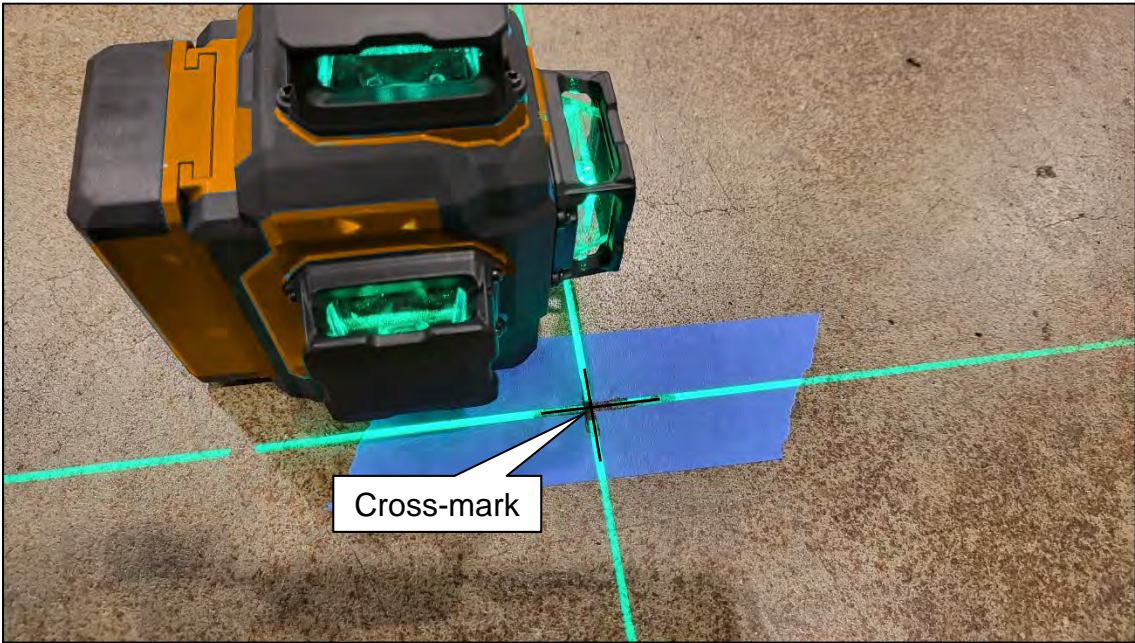

Figure 74
51. Place a cross-mark on the floor below the laser line (Figure 74).